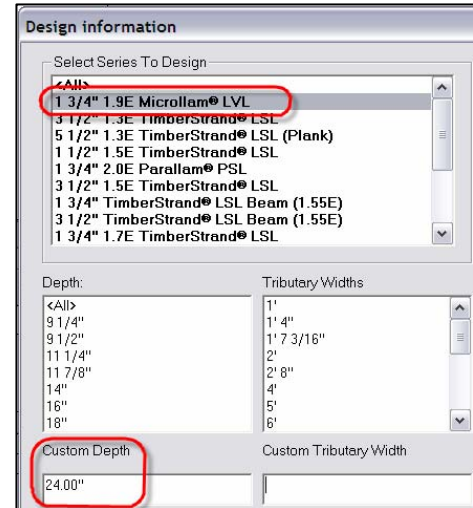
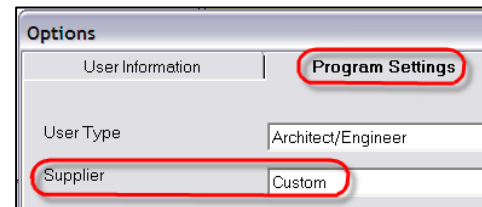

Figure 1: Sizing Microllam® LVL Using Custom Depth Feature in TJ-Beam
Figure 2: TJ-Beam® Settings for 2.2E Parallam® Beam Design
1.9E Microllam® and 2.2E Parallam® beams deeper than 18" can be designed using TJ-Beam® software or by contacting your iLevel® Representative. When designing deep depth Microllam® LVL in TJ-Beam®, it is necessary to use the "Custom Depth" function (See Figure 1). When designing 2.2E Parallam® PSL in TJ-Beam®, an "option" setting needs to be changed. Under, Settings\Options\Program Settings, set the "Supplier" to "Custom". See Figure 2. Then during the design process, deeper Parallam® beam depths can be chosen as shown in Figure 3.